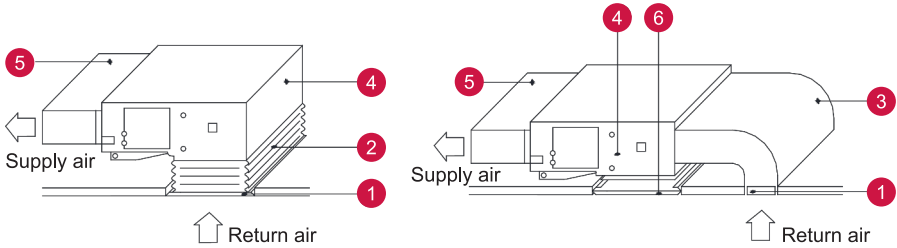

Fig 4.4.7
5. The installation method can be chosen with considering the conditions of the building and maintenance etc., as shown in Fig 4.4.7.